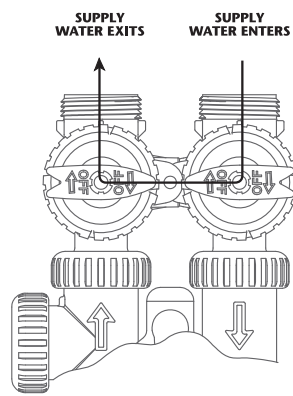

FIGURE 2
2. **BYPASS POSITION:** The inlet and outlet handles point to the center of the bypass. The system is isolated from the water pressure in the plumbing system. Untreated water is supplied to the building (**Fig. 2**).
1. Rotate bypass handles to the bypass mode (see Fig. 2 of page 4).